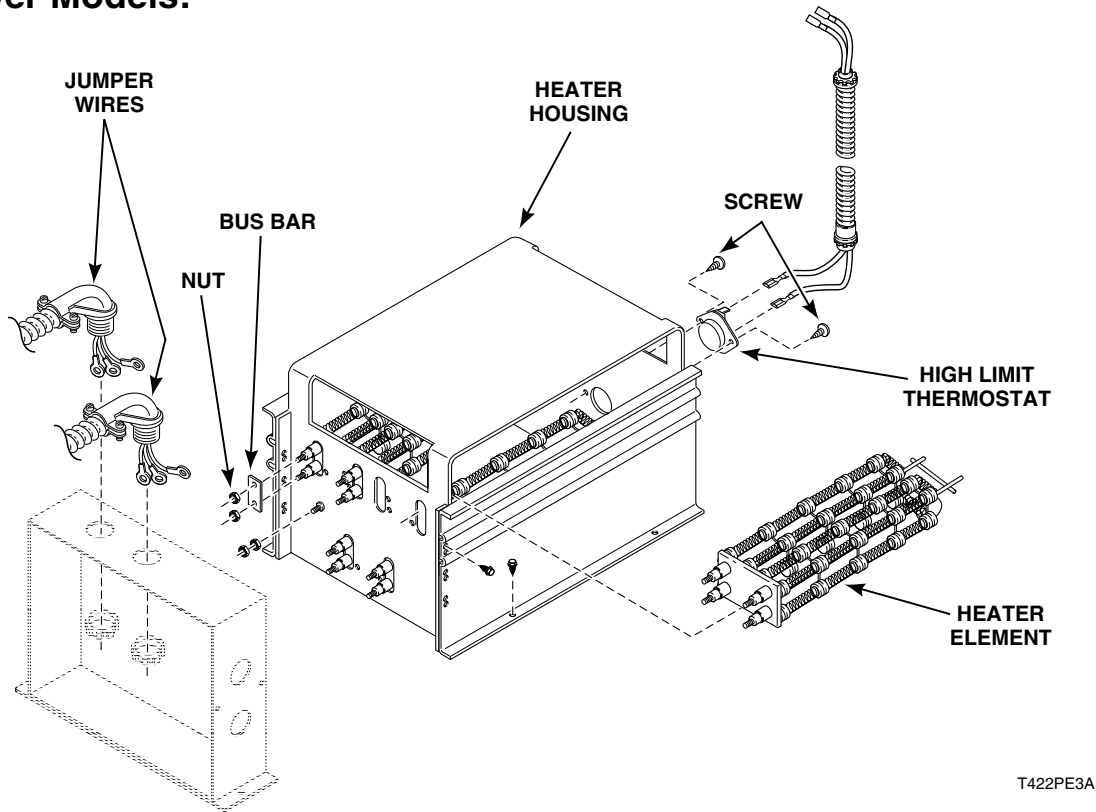

Figure 17
Refer to *Figure 17*.
- c. Remove two screws holding thermostat to front of heater housing and remove thermostat. Refer to *Figure 17*.